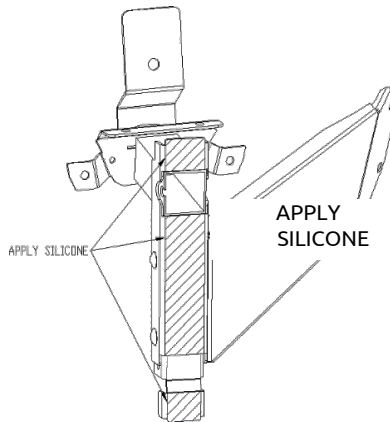

Figure 14
- b. Install (3) 1/4-20 x 3/4" bolts in each Outer Bracket Assembly OBWD/OBWP (carefully avoid cross-threading)
- i. Install (1) 1/4-20 x 3/4" bolt with split lock washer and flat washer through the upper hole of each Outer Bracket Clamp OCL
- ii. Install (2) 1/4-20 x 3/4" bolts with split lock washers and flat washers through the lower holes in each Outer Bracket assembly (OBWD/OBWP) into the nutserts installed in step 7
- a. Apply silicone to outer bracket faces (see figure 14)
- d. Fasten outer visor sections D/ P to center visor section CW using (3) 1/4-20 x 3/4" bolts with flat washers and locknuts
- e. Fasten the outer visor halves D/P to the Outer Brackets OBD/OBP with (2) pan head bolts, washers, and locknuts at each side.